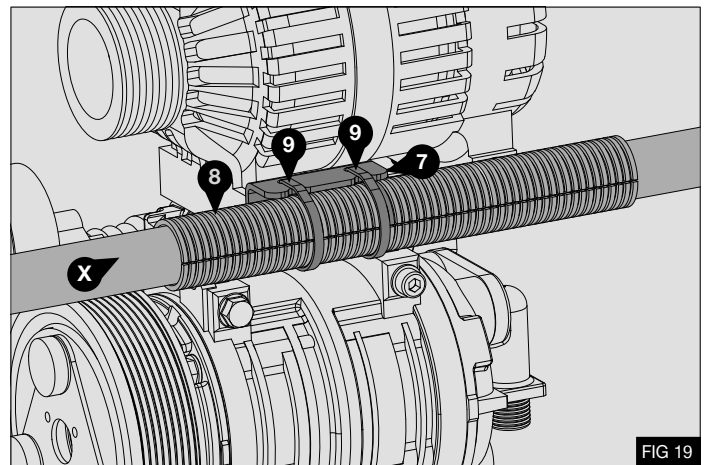

FIG 19
- Fit the supplied length of nylon split tubing (8) to the oil fill pipe (X) and re-connect to the sump.
- Secure the oil fill pipe (X) to the pipe support bracket (7) using 2x cable ties (9) - Fig 19